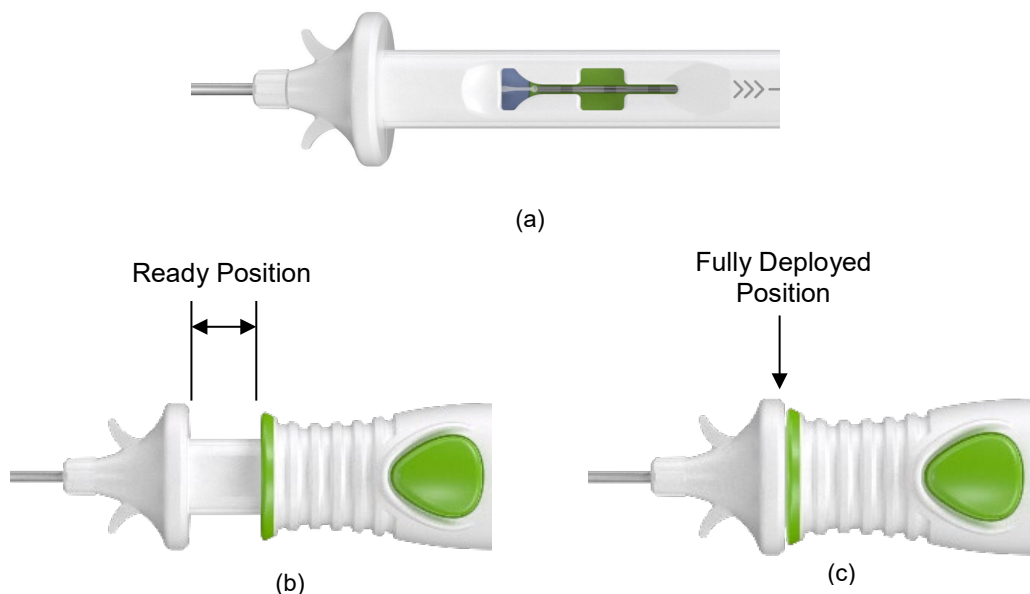

Figure 6: Images showing (a) Proper Cannula advancement and Implant Loading, (b) Delivery Device Ready Position, (c) Delivery Device Deployed Position
- Slowly advance the outer handle until the outer handle locks into the ready position to advance the Implant into the delivery cannula. While advancing, watch the implant load into cannula inner lumen. This positions the Implant at the tip of the cannula in the ready position. Proper implant loading and handle positioning is shown in **Figure 6** below.